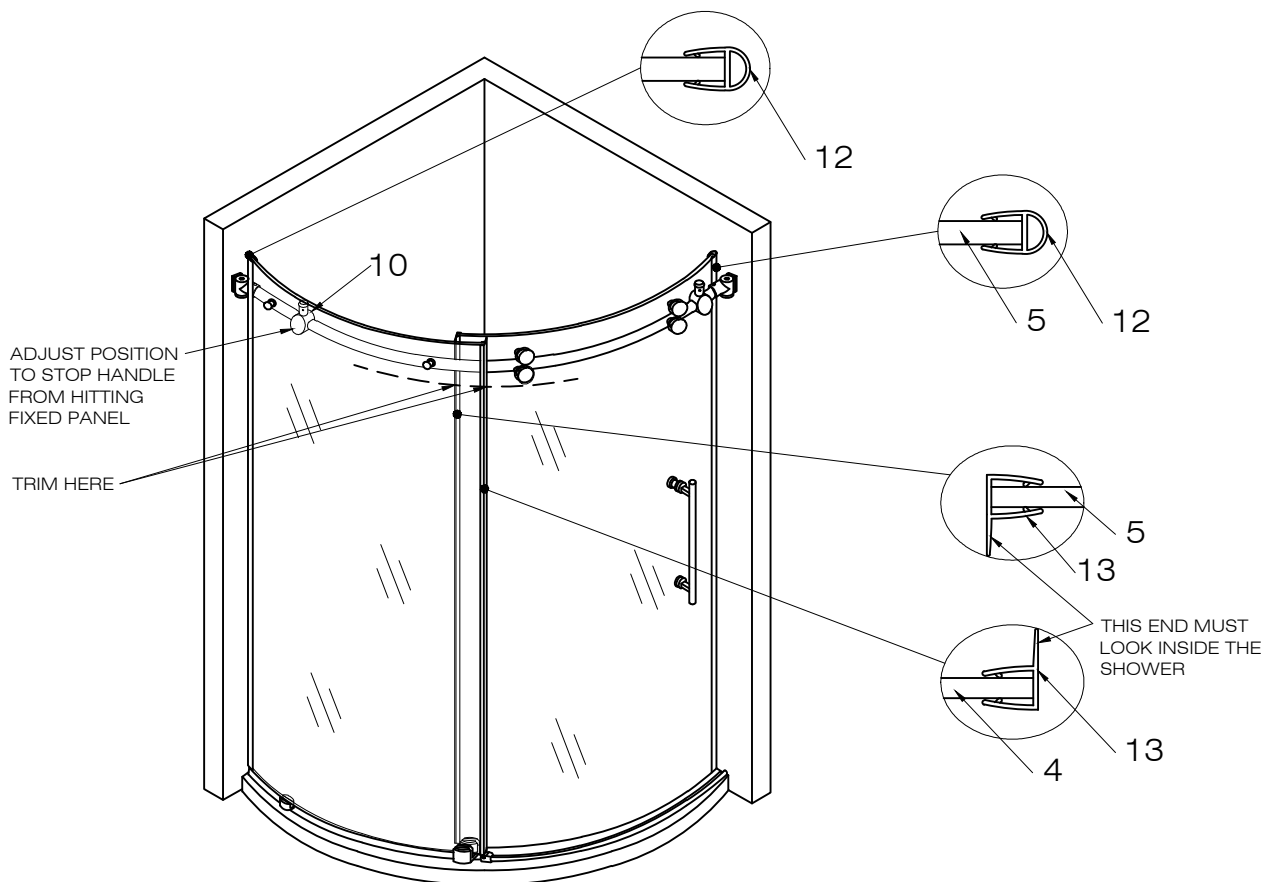

FIG.10
4. The door stopper's position (#10) may have to change now to stop the handle from hitting the fixed panel when in the open position. Adjust accordingly. [SEE FIG. 10]
1. Place the seal strips (#12 and 13) to the door and to the fixed panel, respectively. [SEE FIG.10]